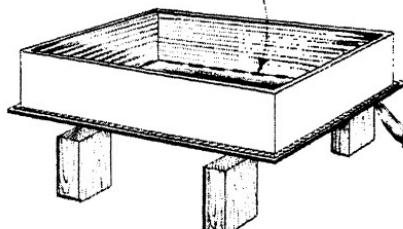

FIG. 3
3. Cut across to obtain pieces of the desired size (Fig. 2). Place them on the edge of the borax slate (Fig. 3).